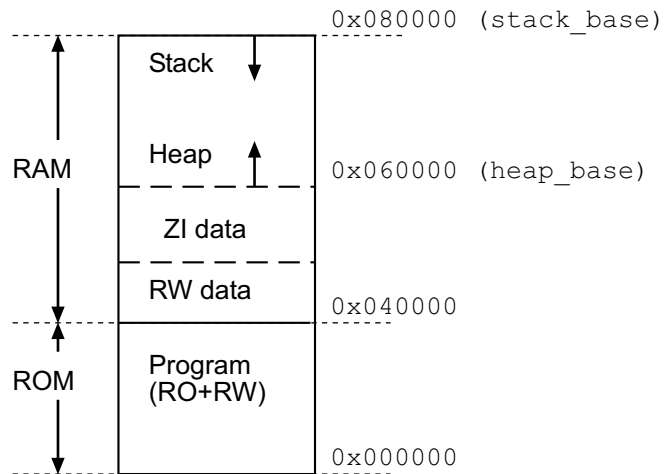

Figure 7-4 Memory map for ROM at address 0
Figure 7-4 shows:
- ROM is address 0 as specified by `-ro-base`. See Figure 7-4.